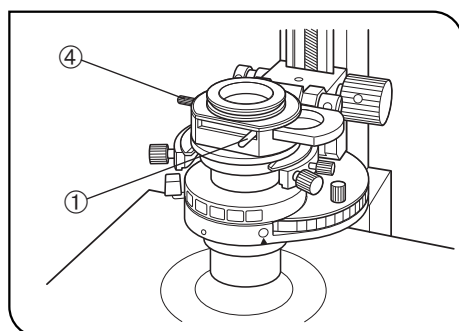

Fig. 64
5 Cross-Nicol Adjustment (Figs. 64 to 66)
1. Rotate the condenser's turret for the BF (brightfield) light path (with no optical element engaged in the light path). (Fig. 64)
2. Slide the polarizer detaching lever ① on the IX-LWPO polarizer to engage the polarizer in the light path. (Fig. 64)
7. While observing the objective's exit pupil, rotate the polarizer rotation/clamping knob ④ on the polarizer unit horizontally until the black interference stripe becomes darkest. This is the position for use of the polarizer. (Figs. 64 & 66)